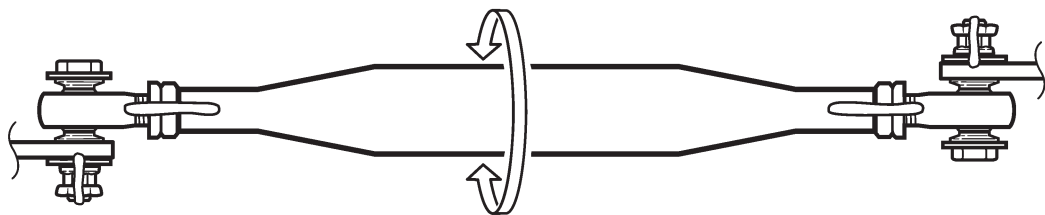

FIGURE 2-1A ROD END CENTERING
5. Refer to Figure 2-1A. Rod ends must be positioned (centered) to allow as much push-pull tube or link rotational movement as possible without binding.